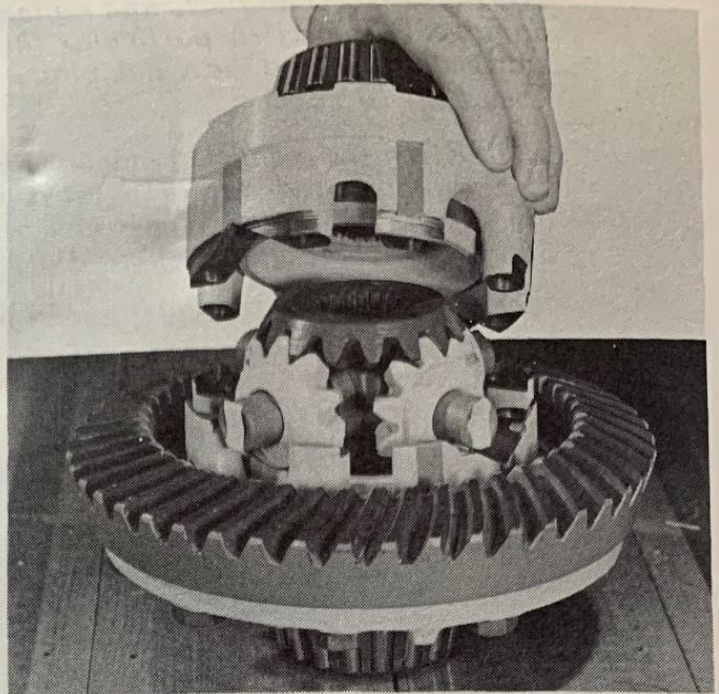

Fig. 12
5. With the ring gear flange half of the Differential Case in an upright position, assemble the bevel side gears, pinion mate cross shafts (align the previously made marks on the cross shafts and the case halves), and bevel pinion mate gears. (See Fig. 12.)
6. Hold the remaining case half thru the bearing trunnion and install it on the ring gear flange half. (See Fig. 12.)